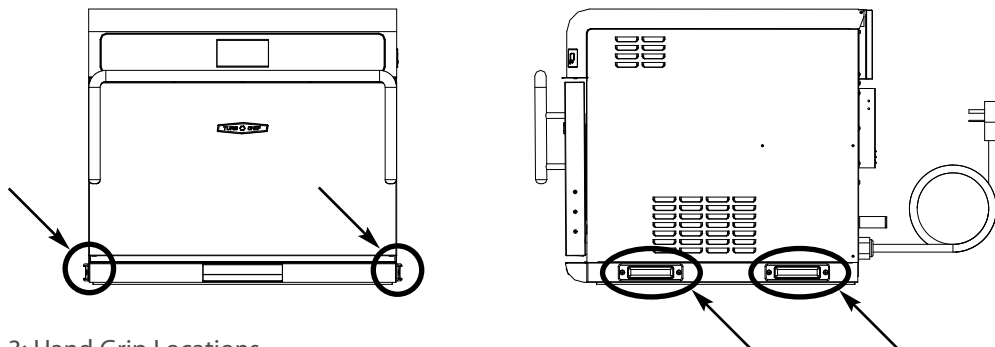

Figure 3: Hand Grip Locations
2. Place hands into grips (see Figure 3) and lift.